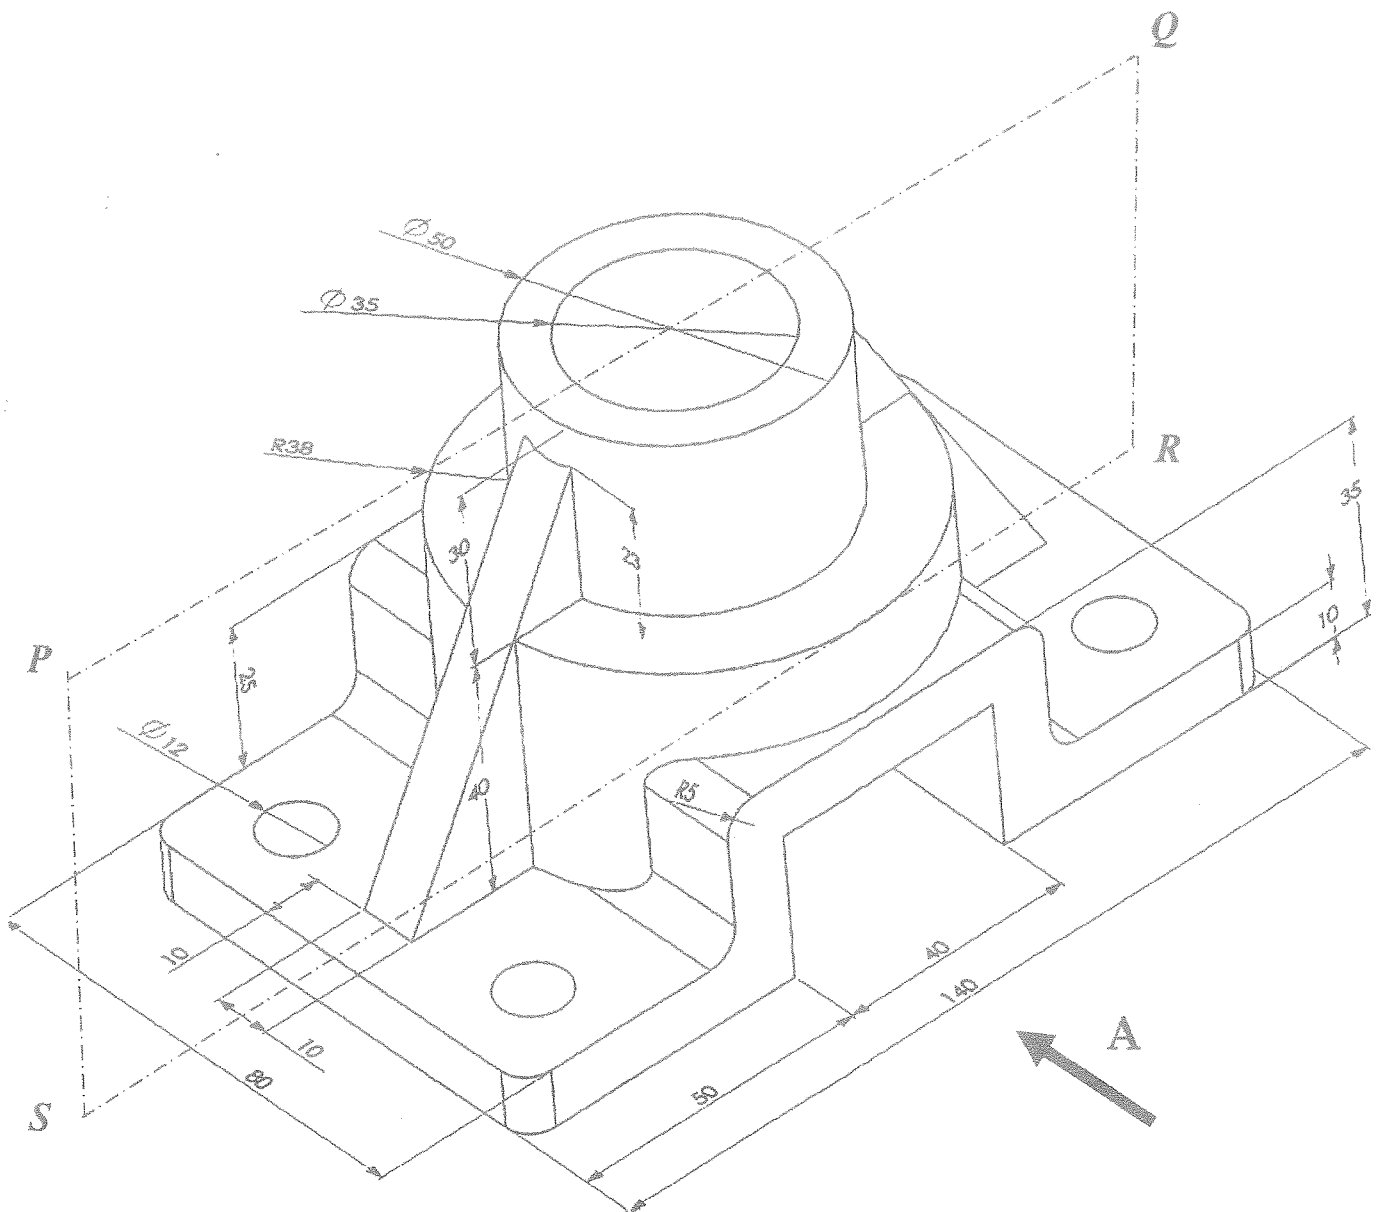

Figure Q1
- Q1. With reference to the symmetric object shown in Figure Q1, draw the following orthographic views using the third angle projection. (Note: assume any dimension not given)